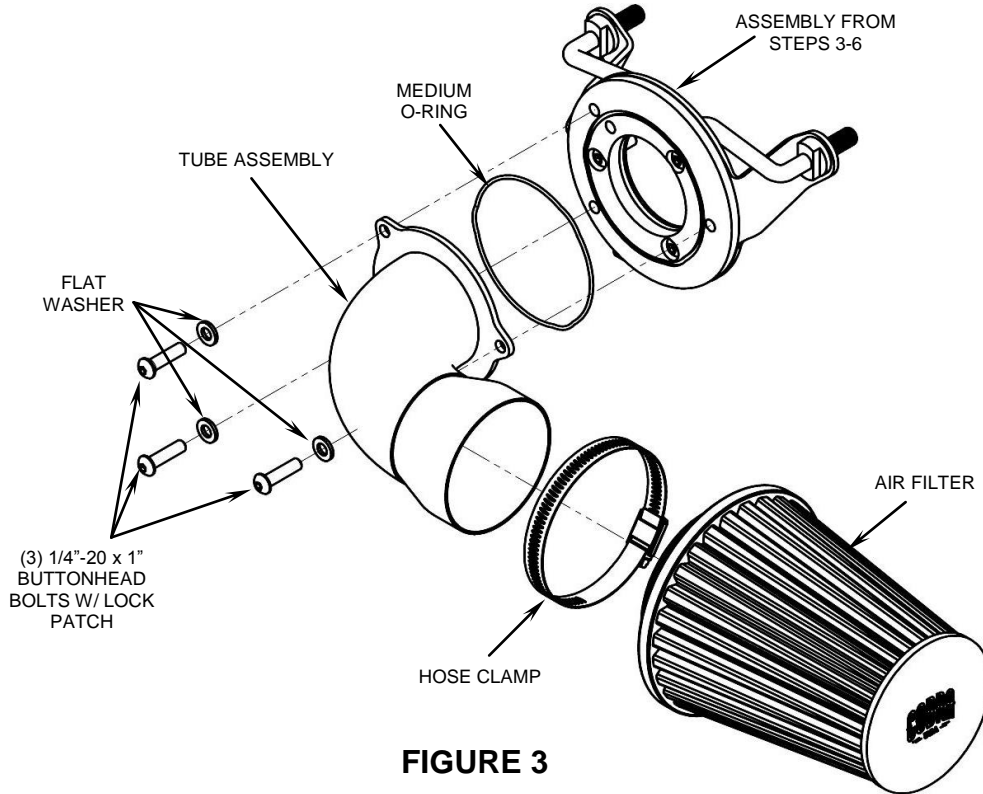

FIGURE 3
12. Make sure the medium sized o-ring is seated properly in the groove on the billet adapter plate and then attach the tube assembly using the supplied 1/4"-20 x 1" buttonhead bolts with lock patch and the supplied flat washers. See **FIGURE 3**. Tighten the three bolts evenly.
13. Place the supplied HS-48 clamp around the rubber boot of the K&N® filter so that the clamp screw will be on the inside and facing down. Then slide the filter onto the tube as far as it will go. Align the logo on the front cover so that it is level with the ground and tighten the clamp. See **FIGURE 3**.